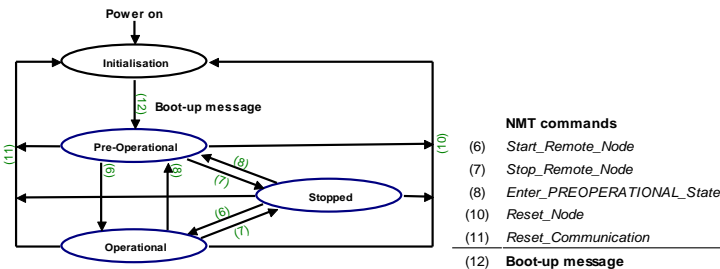

Figure 28: The NMT state machine
All sysWORXX I/O devices also support the NMT commands *Stop\_Remote\_Node* (7), *Enter\_PRE-OPERATIONAL\_State* (8), *Reset\_Node* (10), *Reset\_Communication* (11) to control state transitions (see *Figure 28* and *Table 46*).